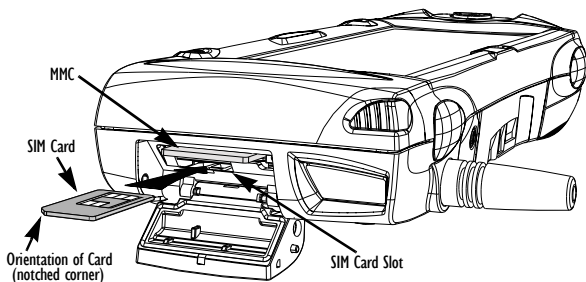

Figure 2.9 Insertion Of SIM Card
- Push the SIM card into place until it is fully inserted. Note the orientation of the card, shown in Figure 2.9 on page 29, with the notch of the card on the left, trailing side. Close the door.